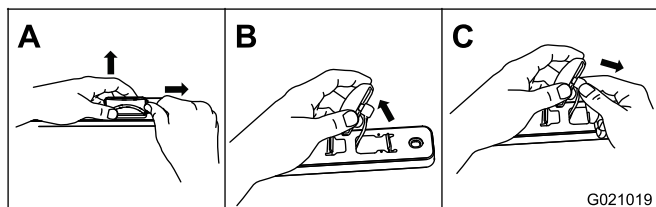

Figure 58
1. Push 1 of the tabs over that holds the lens assembly in place, and pull the lens away from the rest of the center-light assembly (Figure 58).